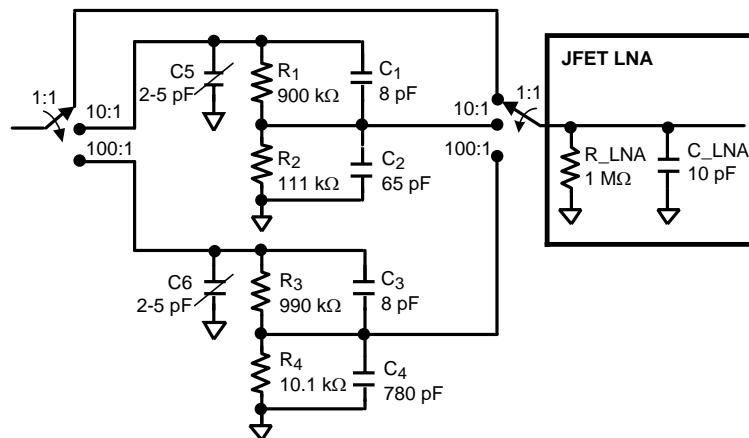

Figure 69. Front End Attenuator for JFET LNA Implementation
- Low noise ($<0.98 \text{ nV}/\sqrt{\text{Hz}}$) to reduce the impact on the LMH6518 noise figure. Note that Figure 58 does not show the necessary capacitors across the resistors in the front-end attenuators (see Figure 69). These capacitors provide frequency response compensation and limit the noise contribution from the resistors so that they do not impact the signal path noise. For more information about front-end attenuator design, including frequency compensation, see Related Documentation for additional resources.
Figure 69 shows a front-end attenuator designed to work with Figure 68.